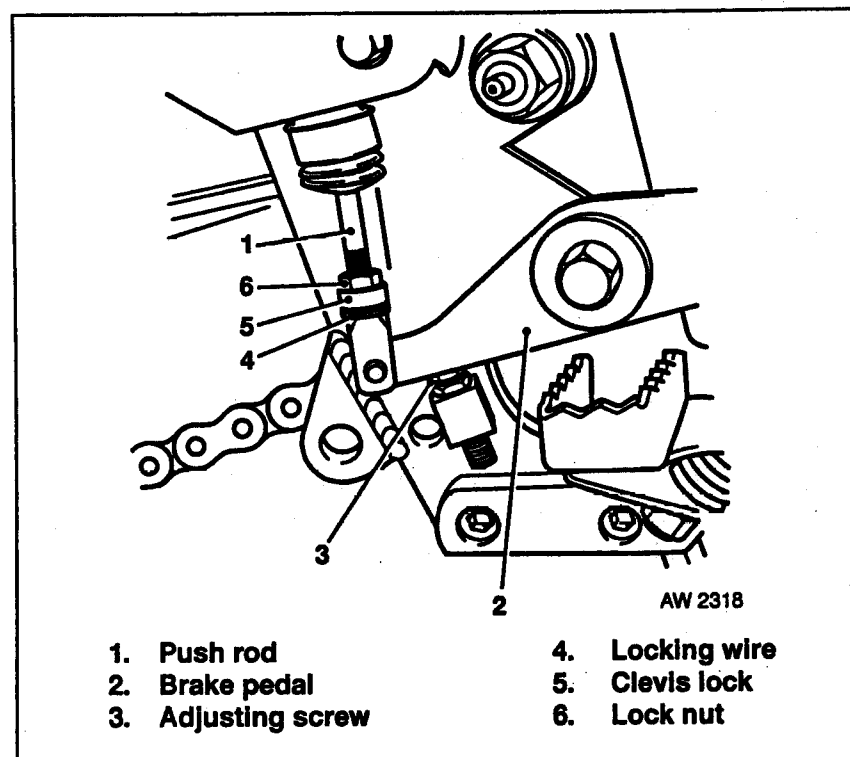

Fig 12.3 Free Play Adjustment
(2) Fig 12.3 refers. Depress brake pedal only as far as necessary for push rod (1) to contact master cylinder piston (a significant resistance can be felt). Hold pedal in this position while making adjustment in steps (3) to (7).
(3) Measure clearance between brake pedal (2) and adjusting screw (3). Clearance should be 1.6 mm ($\frac{1}{16}$ in).
(4) If clearance is not 1.6 mm ($\frac{1}{16}$ in) use long nose pliers and remove and discard locking wire (4).
- (5) Fig 12.3 refers. Remove lock wire, unsnap clevis lock (5) and swing out of way.
- (6) Loosen lock nut (6).
- (7) Lengthen or shorten push rod (1) by rotating it until clearance is 1-6 mm ($\frac{1}{16}$ in).
- (8) Tighten lock nut (6).
- (9) Snap clevis lock (5) over clevis.
- (10) Install new lock wire (4).